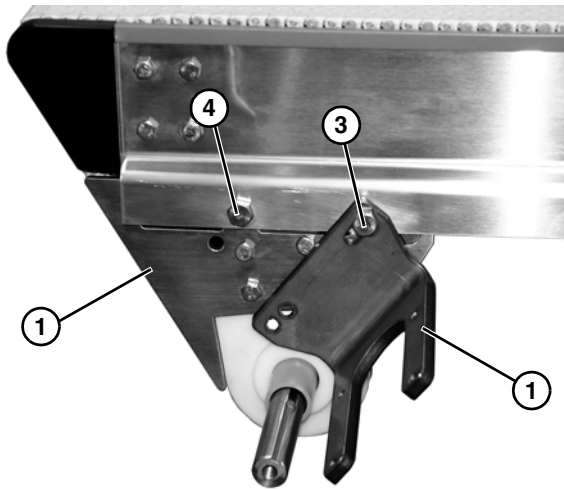

Figure 14
2. Attach the gear reducer mounting bracket (**Figure 14, item 1**) to the nose bar side plate (**Figure 14, item 2**) with one M10x30 cap screw (**Figure 14, item 3**). Do not tighten cap screw.
3. Remove second cap screw (**Figure 14, item 4**) from nose bar side plate.